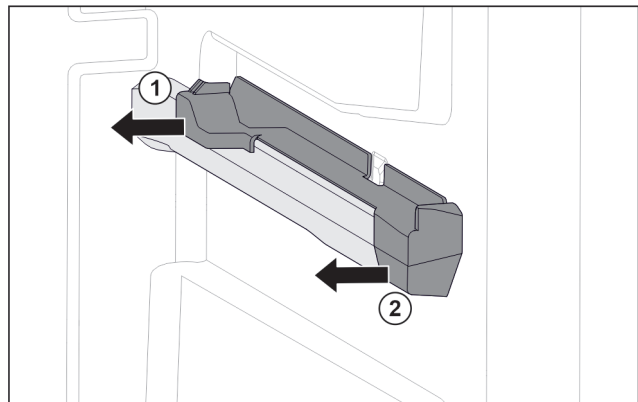

Fig. 122 Attachment on the right molded rib
- ▶ Pull off attachment at the back sideways. Fig. 122 (1)
- ▶ Pull off attachment at the front sideways. Fig. 122 (2)